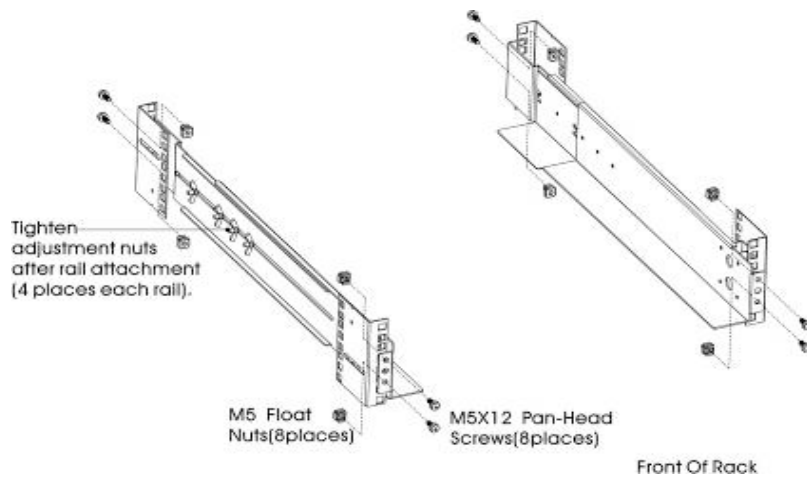

Figure 2: Fixing the rails
- b) Select the proper size in the rack for positioning the UPS (see Figure 2). The rail occupies four positions on the front and rear of the rack.